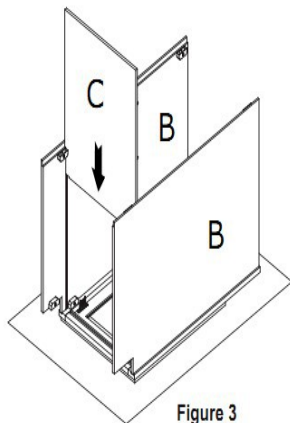

Figure 3
**3. Installing the Bottom (Figure 3):** Gently spread the side panels and insert the bottom (C) into the grooves of side panel (B) until it touches the face frame (A). Align it and lock each cam.